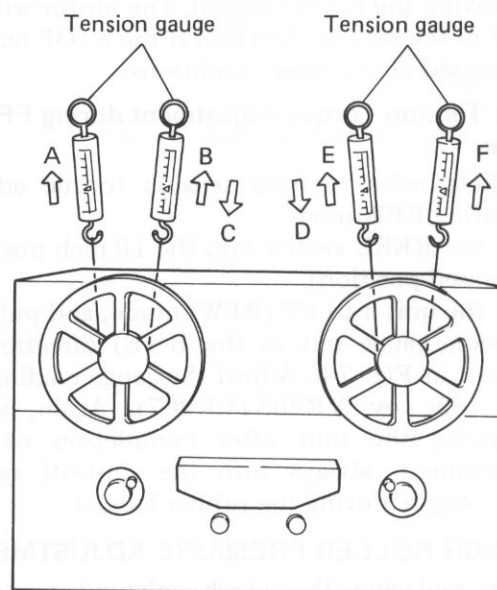
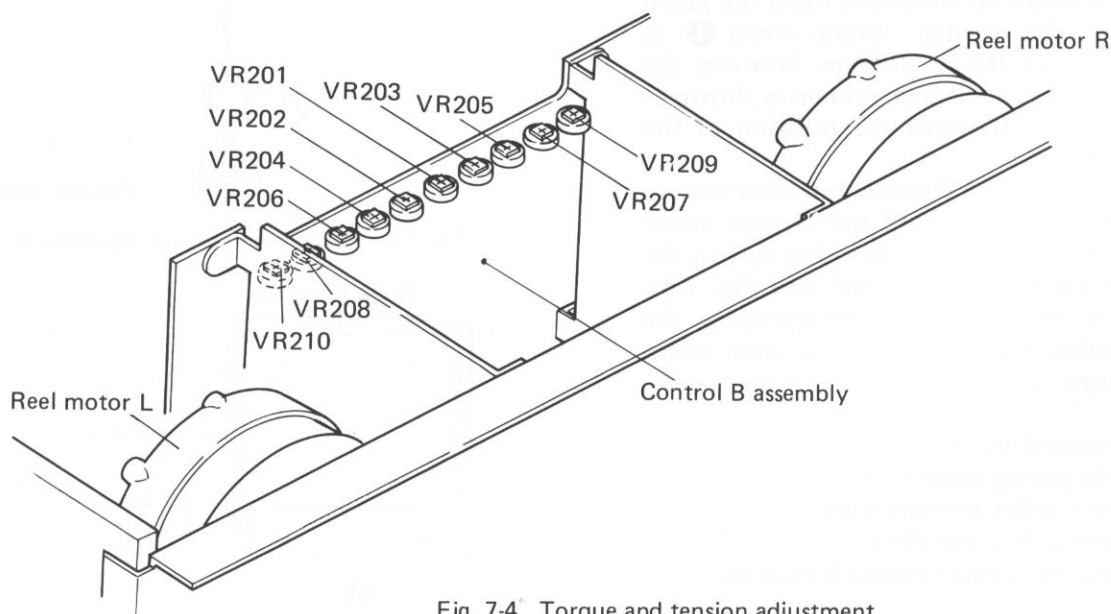

Fig. 7-3 Torque and tension adjustment
Fig. 7-4 Torque and tension adjustment
2. Wind a piece of thread onto an empty No.7 reel (hub diameter of 60mm), and tie the other end of the thread to a tension gauge as shown in Fig. 7-3.
2. Start the unit in FWD PLAY (REV PLAY) mode, and "take-up" the tension gauge in the D (C) direction (tension gauge "fed in") as shown in Fig. 7-3. Adjust VR203 (VR204) in the Control B Assembly shown in Fig. 7-4 so that the tension gauge reads 240 – 260g. Take-up torque is increased by turning these VRs clockwise, and decreased by turning counter clockwise.
2. Put the unit into FWD PLAY (REV PLAY) mode. Pull the tension gauge in the B (E) direction as shown in Fig. 7-3, and read off the gauge value. Adjust the gauge reading to 95 – 105g by means of VR210 (VR209).
2. Put the unit into FF mode, and have the tension gauge "taken up" (i.e. "fed in") in the D (C) direction as shown in Fig. 7-3. Adjust the tension gauge reading to 440—460g by VR205 (VR206). When switching the unit over to stop mode after completing the adjustment, set the shut-off switch to the OFF position (by removing the rubber bands). The motor will rotate in the reverse direction if the STOP button is pressed under these conditions.
2. Put the unit into FF (REW) mode, and pull the tension gauge out in the B (E) direction as shown in Fig. 7-3. Adjust the gauge readings to 60—65g by VR208 (VR207). Again, when stopping the unit after completion of the adjustment, always turn the shut-off switch OFF (by removing the rubber bands).